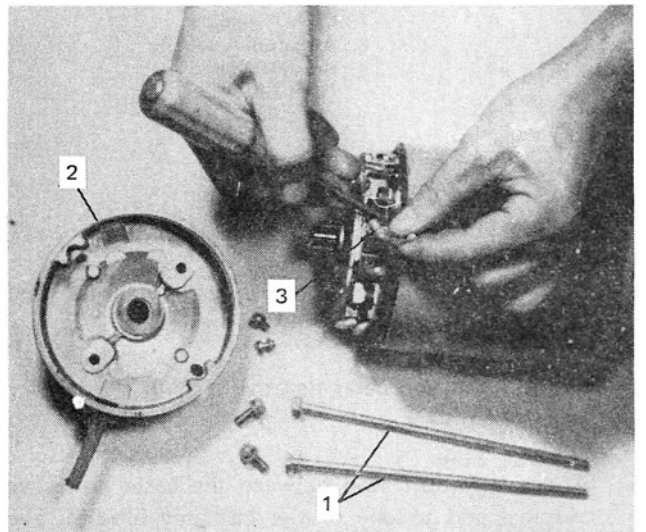

Figure 22
4. Remove the brush holder and brushes from the starting motor, Figure 22.